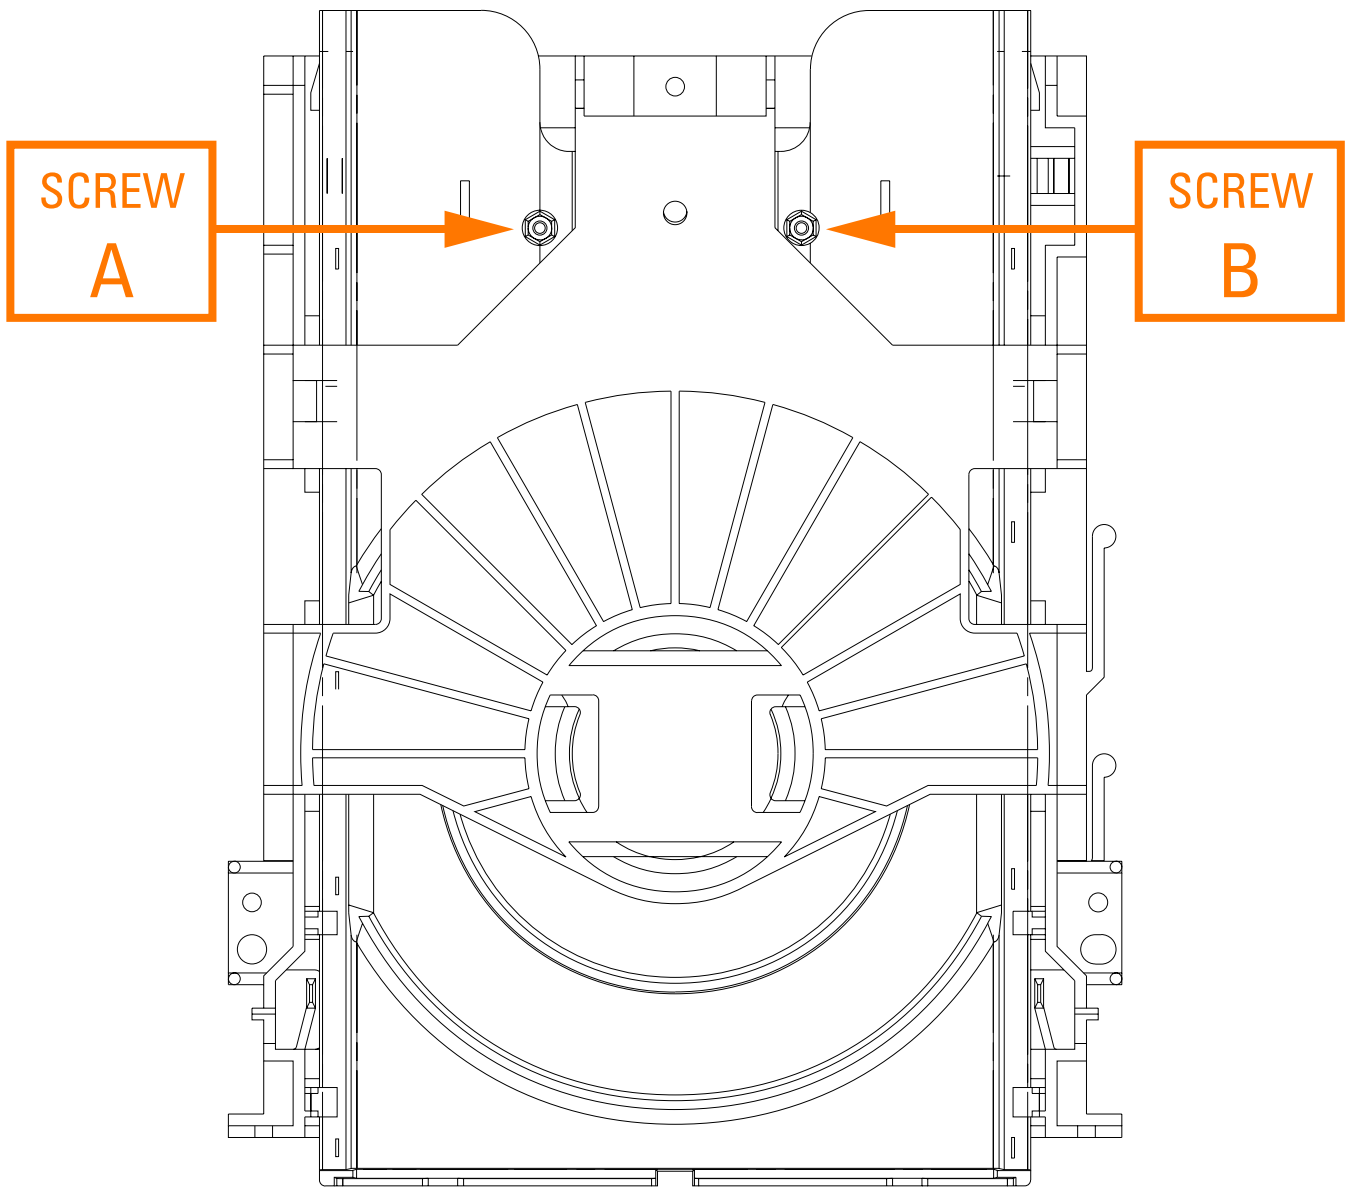

Fig. 6-6 Ass'y Deck (Top Side)
- 3) Adjust the Screws “A” and “B” (See Fig. 6-6) using a Hex screwdriver until you obtain a Flat Waveform and the picture is stable.